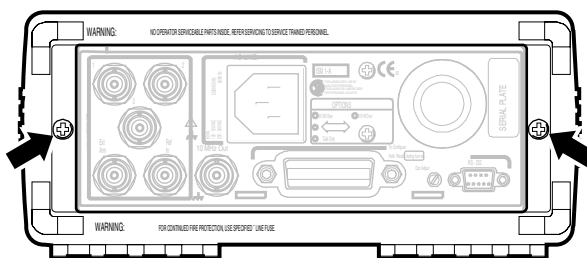

Figure 3-1. Rear Bezel Removal
- 2 To remove the rear bezel, loosen the captive screws on the sides as shown in Figure 3-1 using the TORX 15 screwdriver.